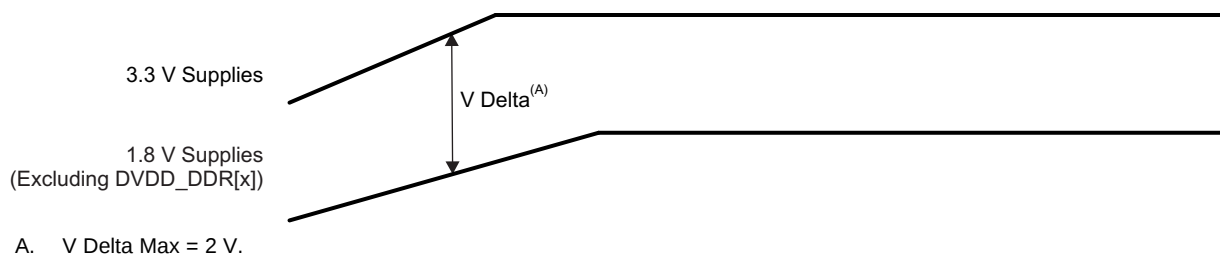

Figure 7-2. 3.3 V Supplies Rising Before 1.8 V Supplies Delta
(1) The 3.3 V supplies **must** never be more than 2 V above the 1.8 V supplies (see Figure 7-2).
(2) The 1.8 V supplies **must** be $\geq$ 1.5-/1.8-V DVDD_DDR[x] and CVDD, CVDD_x variable supplies.
(1) The 1.8 V supplies **must** be $\geq$ 1.5-/1.8-V DVDD_DDR[x] and CVDD, CVDD_x variable supplies.
(2) The 3.3 V supplies **must** never be more than 2 V above the 1.8 V supplies (see Figure 7-2).